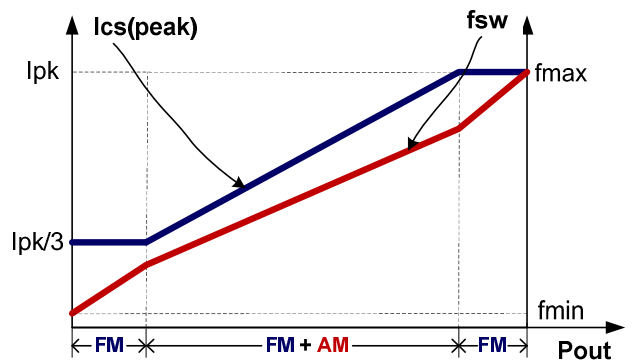

Fig.4
To meet the tight requirement of averaged system efficiency and no load power consumption, a hybrid of frequency modulation (FM) and amplitude modulation (AM) is adopted in DP25132 which is shown in the Fig 4.